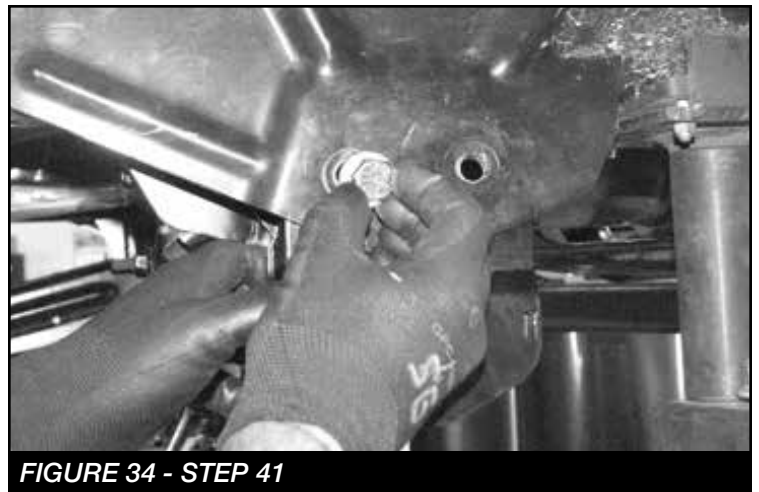

FIGURE 34 - STEP 41
41. Locate four 1/2"-13 x 1-1/4" bolts, nuts and washers. Use these bolts to mount the radius arm drop bracket to the factory bracket. Leave loose at this time. **SEE FIGURE 34**